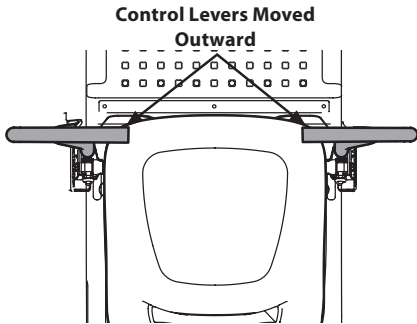

Figure 20
3. Set the lapbar drive control levers fully out (Figure 20).